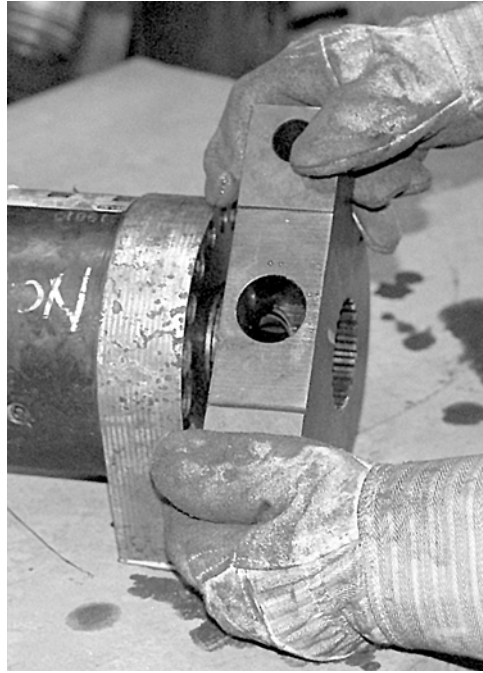

Figure 5-19. Installation of Torque Bracket onto Rotary Actuator
6. Install the torque bracket onto the rotary actuator (see Figure 5-19).